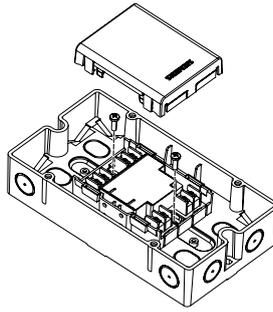

Fig. 10
- Installing outside a switching cabinet or a control unit: use FDCH221 housing (Fig. 10).
3. Mount the housing on an even surface with two screws (Fig. 10). Distance between holes:  $182.0 \pm 1.0$  mm.